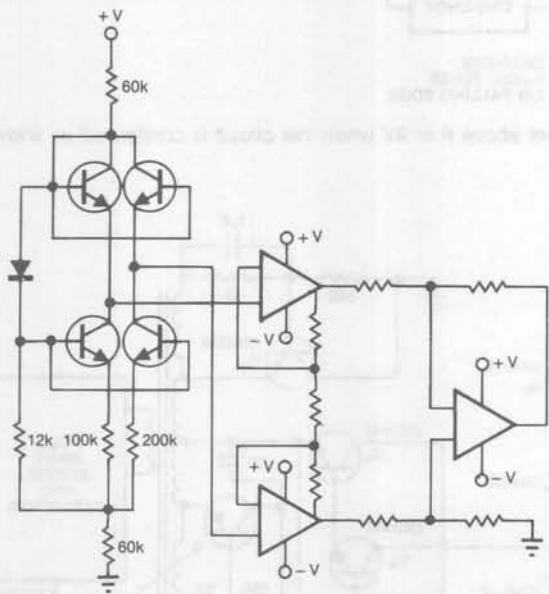

Fig 9—Find the temperature sensor in this circuit.
14. The circuit shown in Fig 9 senses temperature and provides an amplified analog output. Which component is the sensor, and how does the circuit work?